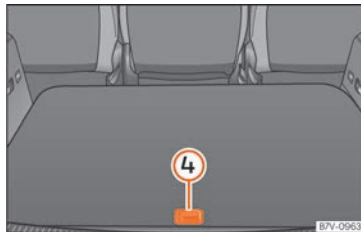

Fig. 168 Other compartments in the boot floor.
- **Opening:** use the handle to lift the rear part of the luggage compartment floor » Fig. 168 (4).
- **Closing:** fold the hook away and press down on the rear part of the luggage compartment floor (4).